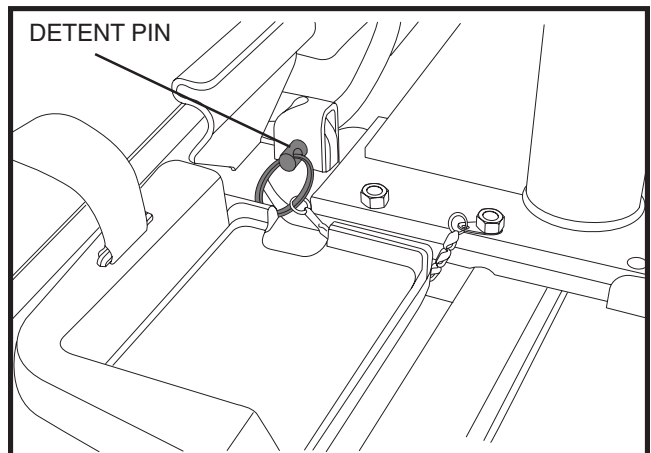

Figure 15. Detent Pin Removal
- Remove the detent pin that secures the front and rear sections together. See figure 15.